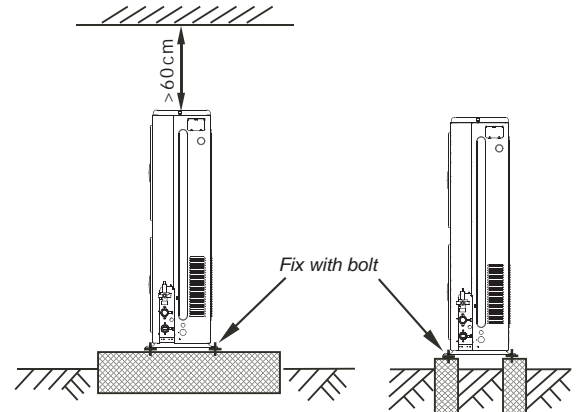

Fig.5-6
- Make concrete foundation according to the specifications of the outdoor units.(refer to Fig.5-6)
- Fasten the feet of this unit with bolts firmly to prevent it from collapsing in case of earthquake or strong wind. (refer to Fig.5-6)